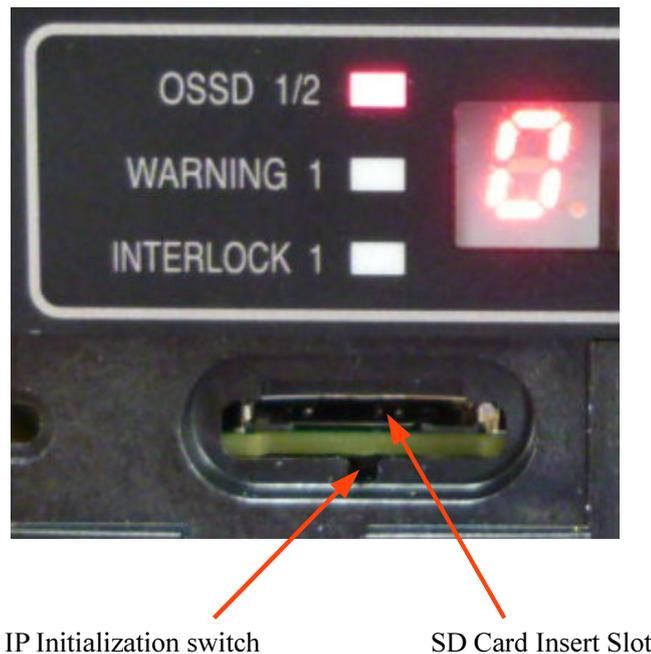

Figure 4-19 IP initialization switch
- Prepare a thin strong pin for IP initialization process. IP initialization switch is located exactly below the SD card Slot (Refer to figure 4-19)